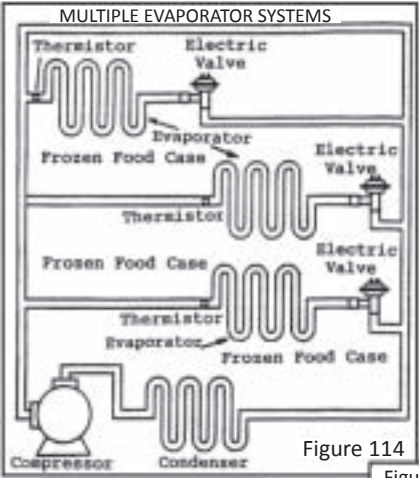

Figure 114
- ★ flooded condenser (in high-side float system) (see figs. 114 and 115).